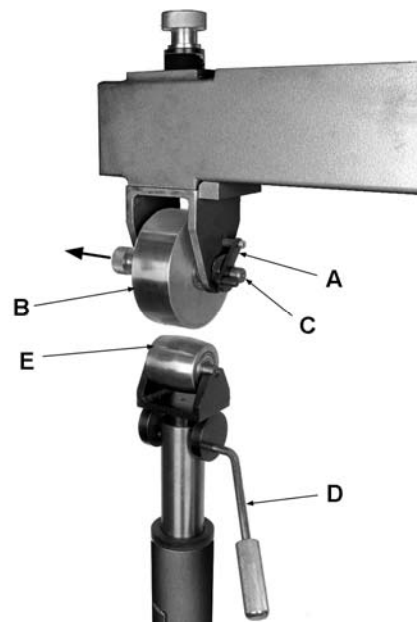
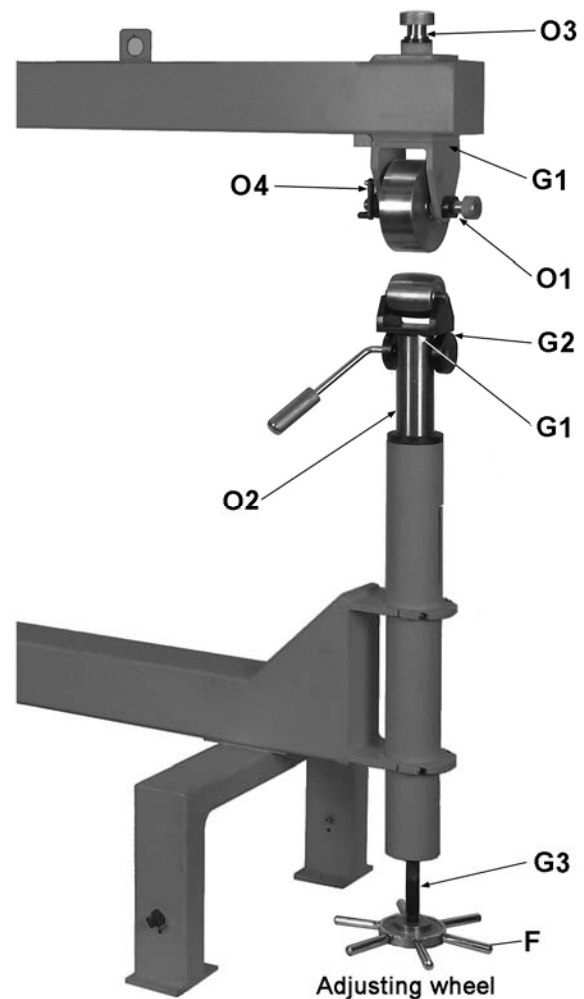

Figure 6-1
Figure 8-1
1. Rotate position block (A, Figure 6-1) to release shaft.
2. Securely hold upper wheel (B) with one hand, and slide out upper wheel shaft (C). Set upper wheel in storage bracket on frame.
3. Reverse above procedure to install new upper wheel. Make sure position block (A) is re-engaged to secure shaft.
1. Release cam lever (D, Figure 6-1) and remove lower wheel (E). If needed, use adjusting wheel (see F, Figure 8-1) to lower post further for additional clearance.
3. Raise lower wheel assembly using adjusting wheel (F, Figure 8-1).
4. Rest material on lower wheel, and use adjusting wheel (F, Figure 8-1) to bring material into contact with upper wheel. Note: Do not use excessive pressure; use lightest pressure necessary to obtain desired result.
6. Rotate adjusting wheel (F, Figure 8-1) as needed during operation to maintain proper pressure.
Refer to Figure 8-1.